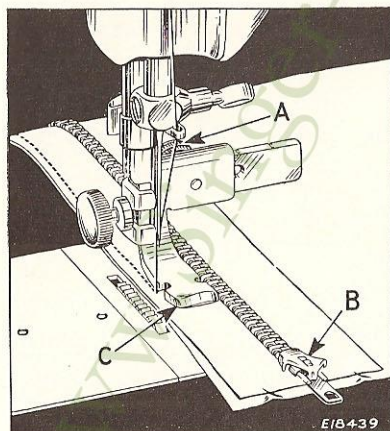

FIG. 201. SEWING ON ZIPPER
The Adjustable Cording and Zipper Foot 121877, shown in Fig. 201, is especially designed for stitching on zipper tapes and other edgings.
This foot has a notch in both sides of the toe and may also be used as either a right or left cording foot by loosening thumb screw (A, Fig. 201) and moving toe (C), to the right or left, as required.